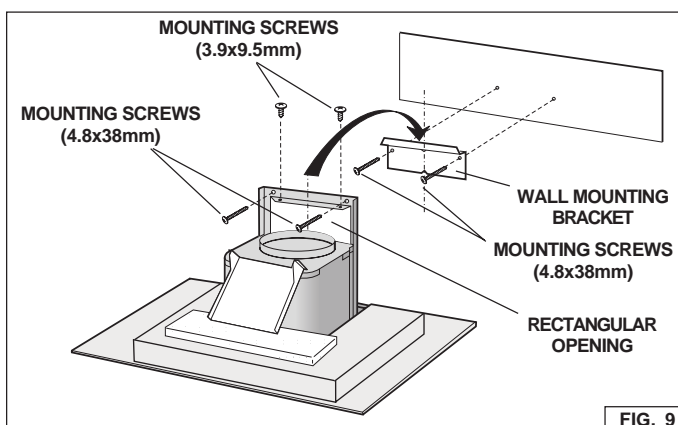

FIG. 9
2. Align the rectangular opening on the back of the hood with the wall-mounting bracket. Gently lower the hood until it securely engages the bracket. Fig. 9.
3. Level the hood with (2) 3.9x9.5mm mounting screws and secure with (2) 4.8x38mm mounting screws. Use drywall anchors provided if wall studs or framing are not available. Fig. 9.